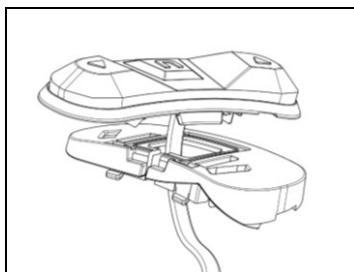

Fig. 18
- Insert the support specific for your helmet in the cable of the keypad (Fig. 18).